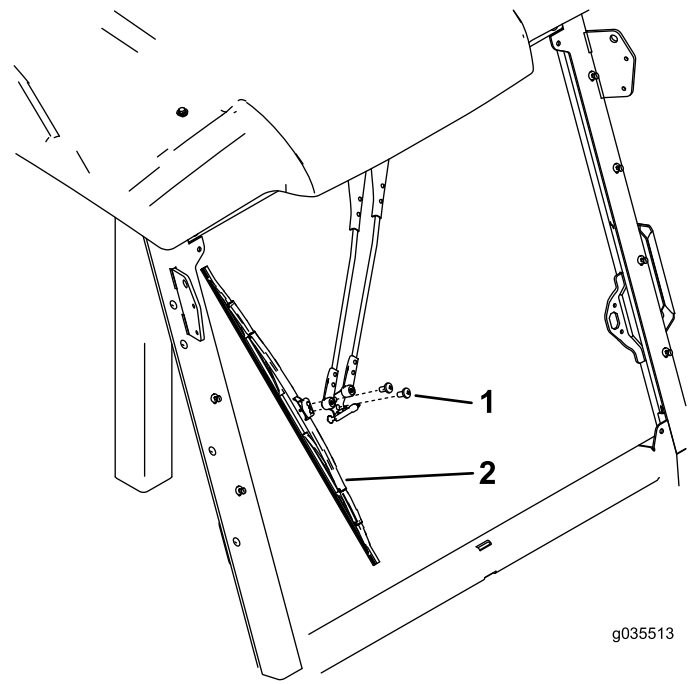

Figure 5
4. Install the wiper blade as shown in Figure 5.